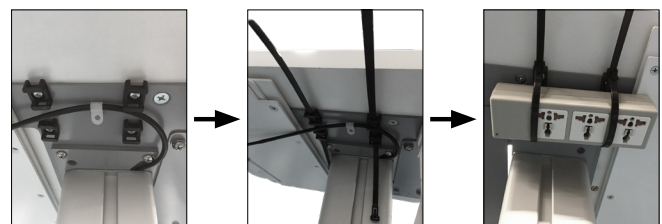

Figure 10
2. **POWER SUPPLY/POWER BAR:** The cart has **ZIP TIE** saddles on the left and right underneath the **WORKTOP** for securing power supplies or power bars. Slide a **ZIP TIE** (found with **WORKTOP**) through each saddle slot (Figure 10). Place the power bar or power supply within the 2x **ZIP TIES** and secure.